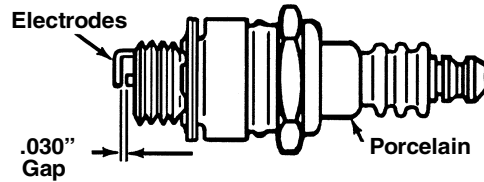

Figure 25
- Replace the spark plug if electrodes are pitted, burned, or the porcelain is cracked. See Figure 25 .
- Clean the spark plug and reset the gap to 0.030" at least once a season or every 50 hours of operation. See Figure 25 .